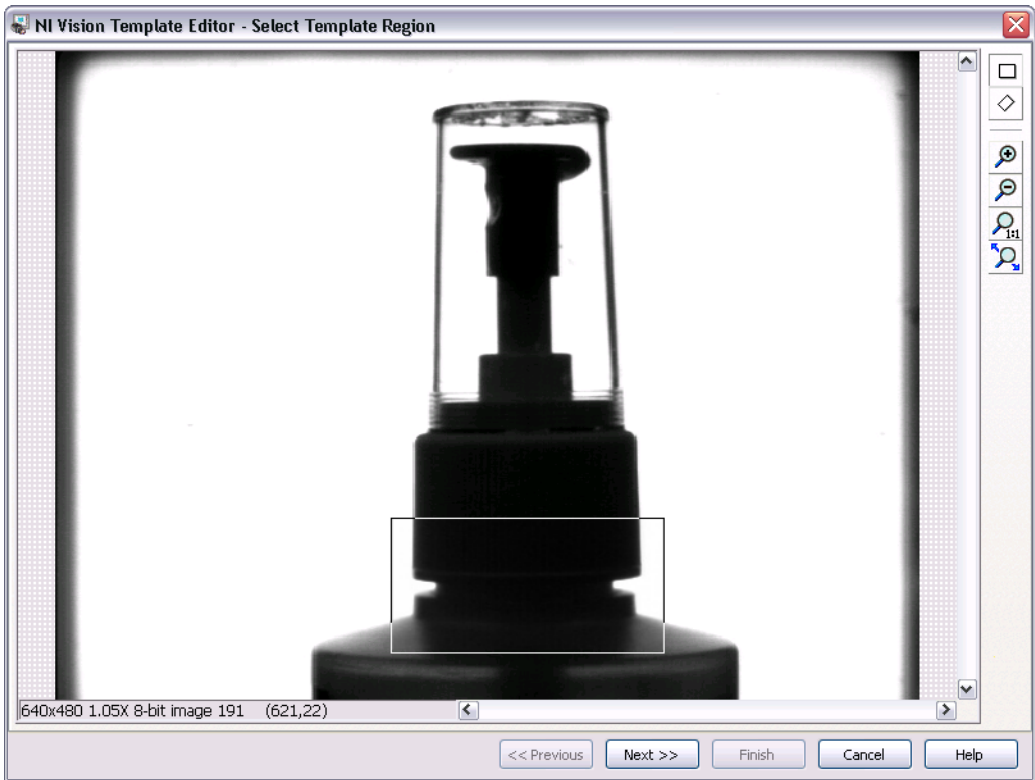

Figure 2-1. Creating a Template Pattern
3. Draw a rectangle around the base of the sprayer, as shown in Figure 2-1. This region becomes the pattern matching template.